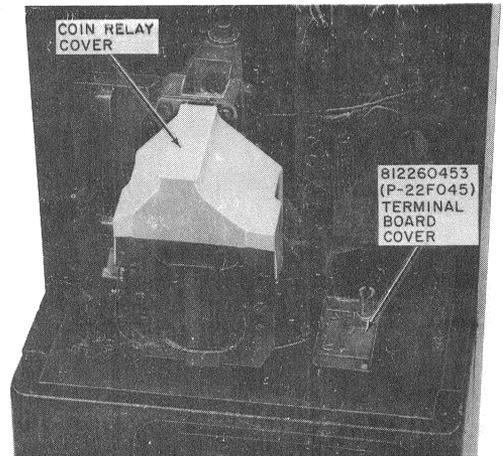

Fig. 11—Installation of Coin Relay Cover and Terminal Board Cover
**4.05** Install coin relay cover and terminal board cover (Fig. 11).